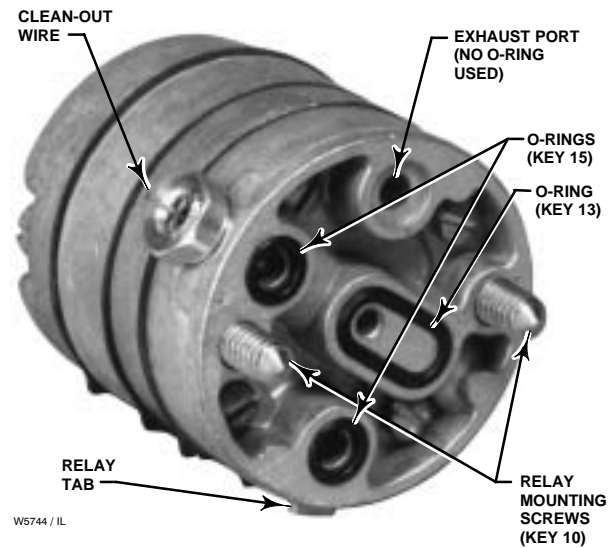

Figure 6-2. Relay Construction
1. Loosen the two captive screws that hold the relay (key 50) in place.
2. Tip the relay slightly toward the side of the case to clear the output pressure gauge (key 46) and lift out the relay.
3. Make sure the replacement relay has three O-rings (keys 13 and 15) installed as shown in figure 6-2. The fourth port is for exhaust and does not require an O-ring.
4. Install the replacement relay, making sure the tab on the relay, shown in figure 6-2, aligns with the tab on the frame.